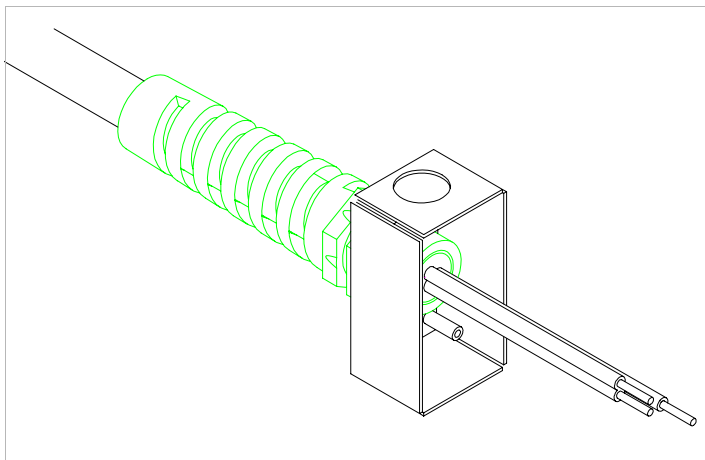

Figure 2.2 Stripped Wire Installed in Strain Relief
2. Strip the outside insulation on the AC cable approximately 2 in. (5 cm). Strip 0.25 in. (6 mm) at the end of each of the wires. See Figure 2.2, on page 34 for details.
6. Route the wires inside the cover to prevent pinching. Fasten the AC input cover to the standoffs on the unit using the 6-32 x 2 in. (2) screws, flat washers, and lock washers provided.